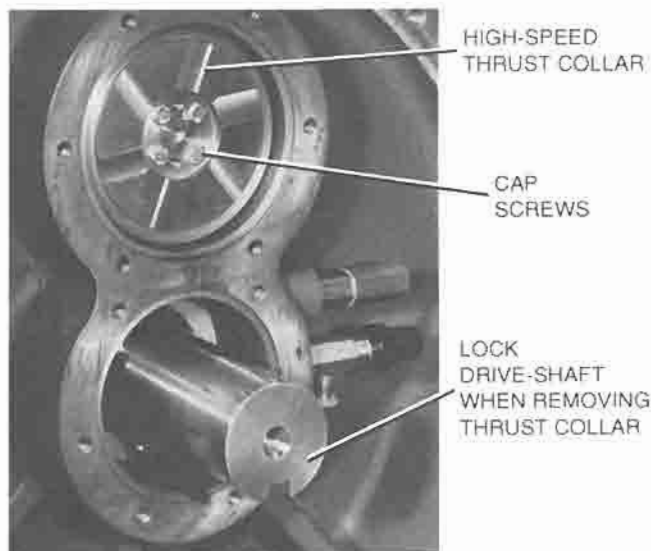

FIG. 28 – REMOVING HIGH-SPEED THRUST COLLAR
4. Remove the cap screws that hold the high-speed thrust collar to the high-speed shaft. (See Fig. 28) and remove the thrust collar. (1/4" - 20 puller holes are provided for convenience.)
2. Note that the high-speed thrust collar has 6 tapered lands on one side and 8 tapered lands on the other side. It **MUST** be installed with the 6 tapered lands facing **OUTWARD** as shown in Fig. 28.